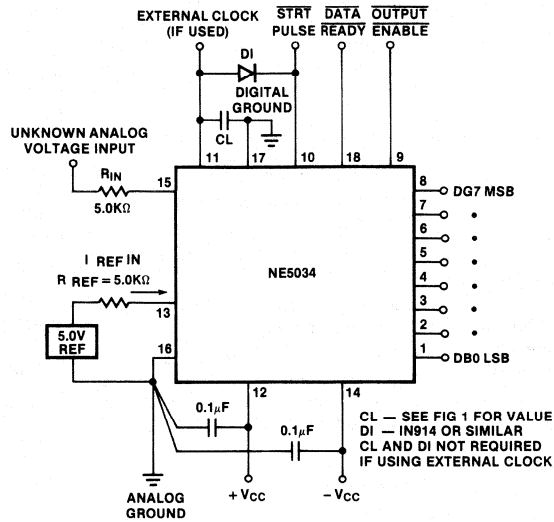

FIGURE 4.
An external capacitor between this pin and ground generates the internal clock pulses. (See diagram for clock frequency vs capacitor value). In order to synchronize the internal clock, to the start pulse a diode (small signal type e.g., 1N914) should be connected between $\overline{\text{START}}$ and CLK IN (see Figures 4 and 5). Without this diode the start pulse could occur at a time which could cause one of the conditions described in the Note on "set up" time. Applying an external TTL-or MOS-compatible clock to this pin slaves the NE5034 to external clock frequency. In this case, the diode is not required but the "set up" time requirements should be noted.
- Adjust the voltage applied to $V_{REF IN}$ (Figure 4) until the LSB varies between '0' and '1', and all other data outputs stay '1' after each conversion.
A standard connection for a 0 to 10V unipolar binary operation, with $V_{REF IN}$ equal to +5 volts, is shown in Figure 4. The NE5034 can quantize full scale ranges of 1V to 10V. It should be noted, however, that for smaller full scale ranges, the accuracy and speed will degrade.